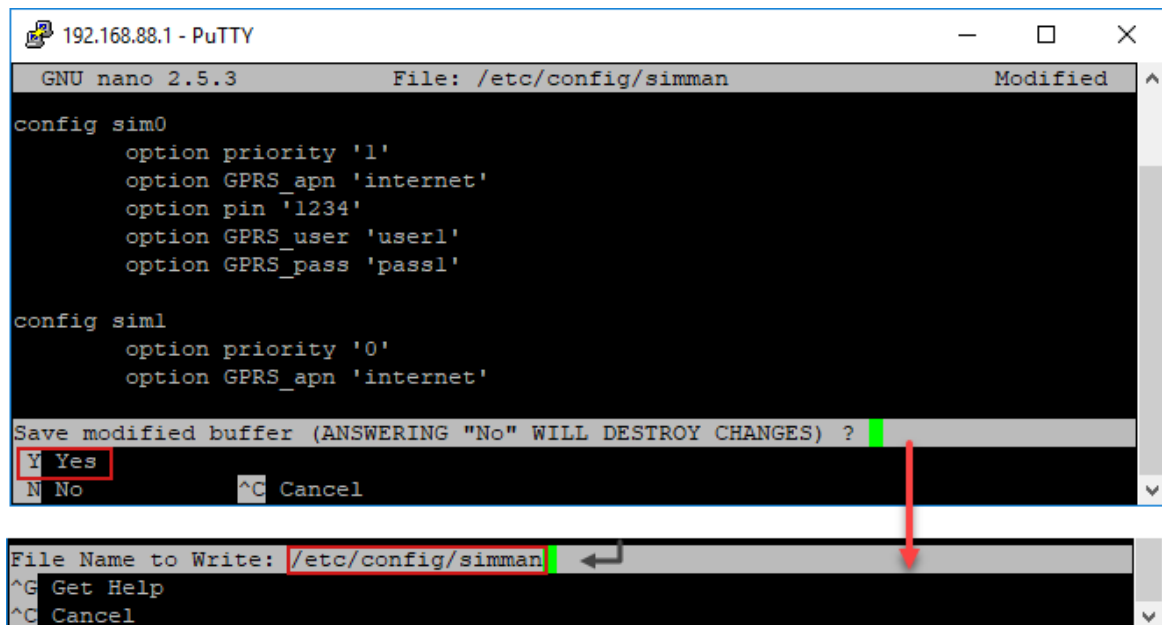

Fig. 30. Configuring SIM settings via Putty.
2. Save settings (**Ctrl+X**) and confirm saving into the same file 'simman' (Fig. 30).